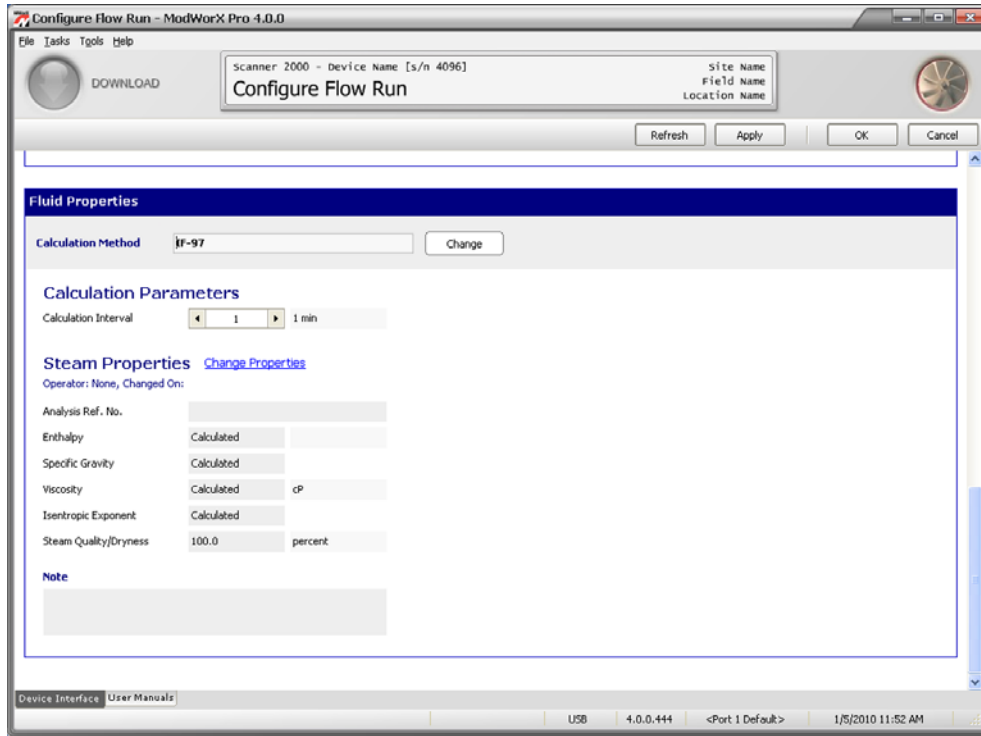

Figure 4.15
- If the flow run is configured for steam measurement, Steam Property settings will be displayed (Figure 4.15, page 66). Edit the parameters as necessary. To change a parameter, click on the blue **Change Properties** hyperlink and follow the screen prompts.